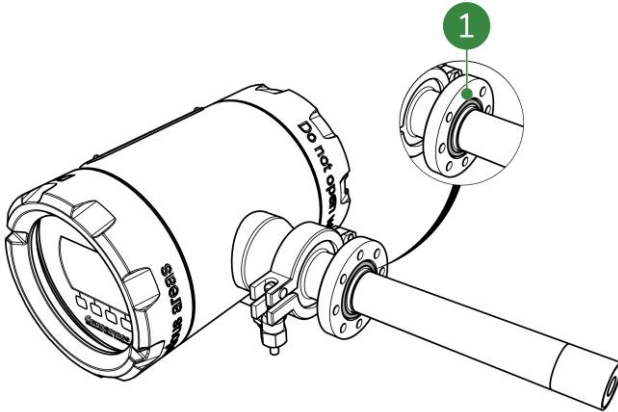

Figure 5-11: O-ring placement
4. Slide the supplied O-ring (Figure 5-11, pos. 1) onto the sensor. Place it against the sensor flange, within the O-ring groove.